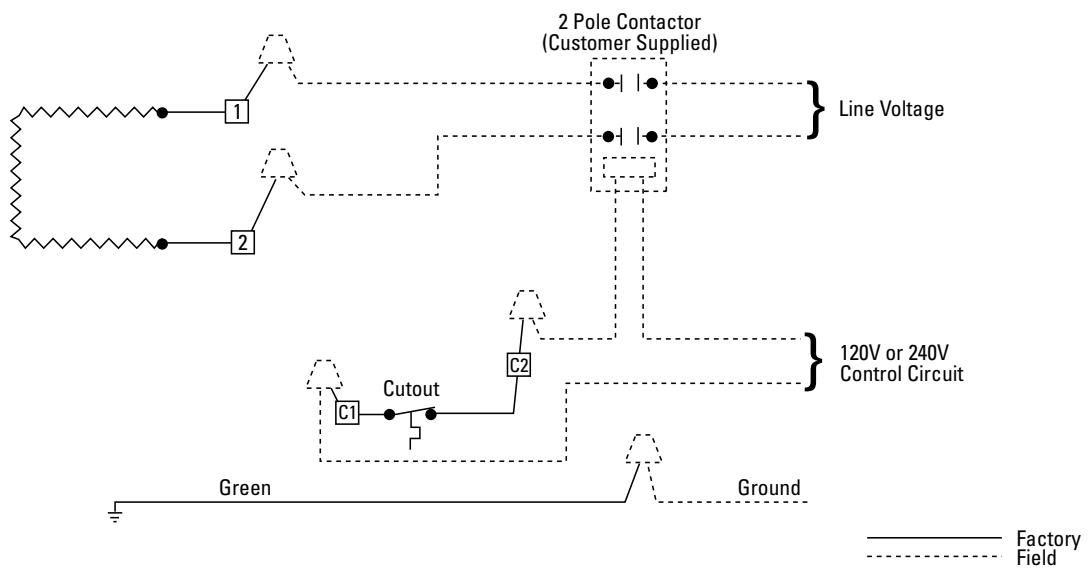

Figure 3
2. Wire heater with manual reset thermal cutout as shown in Figures 3 thru 7.